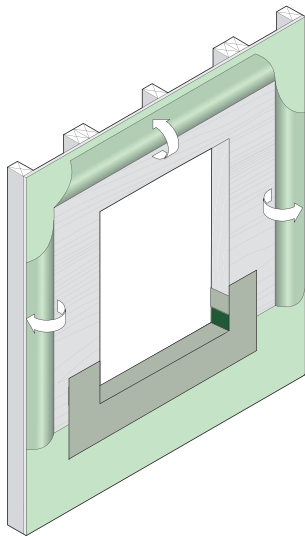

Figure 25
- Install the sill flashing as shown in Figure 25, below. Use the appropriate width of flashing, e.g. **Kingspan GreenGuard® Flashing**, to cover the sill and at least 2" overlap to the face of the rough opening.